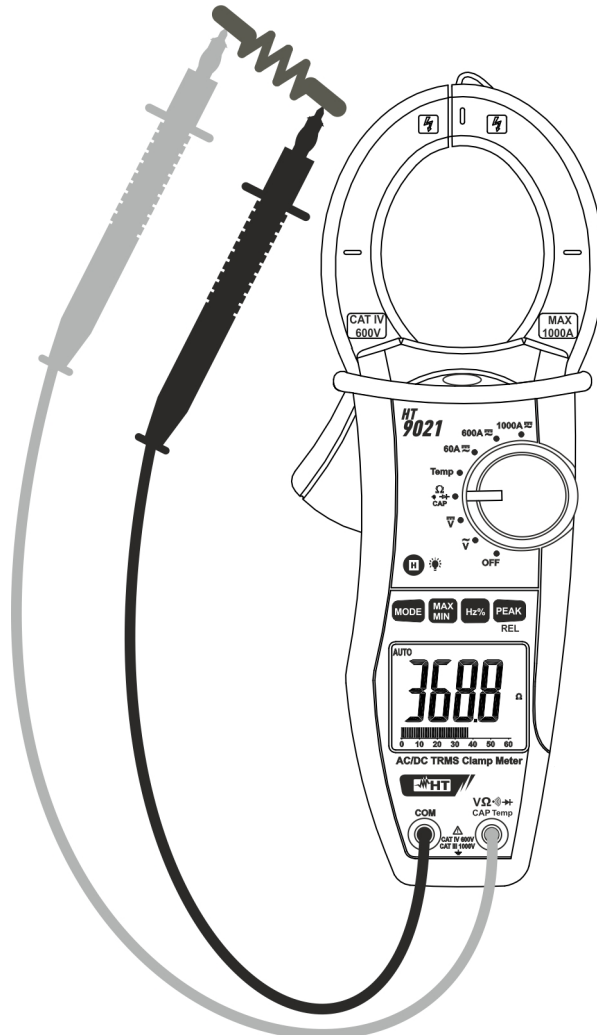

Fig. 5: Taking Resistance measurement
2. Insert the red test lead plug into $V\Omega \cdot \text{CAP Temp}$ jack and the black test lead plug into **COM** jack (Fig. 5)